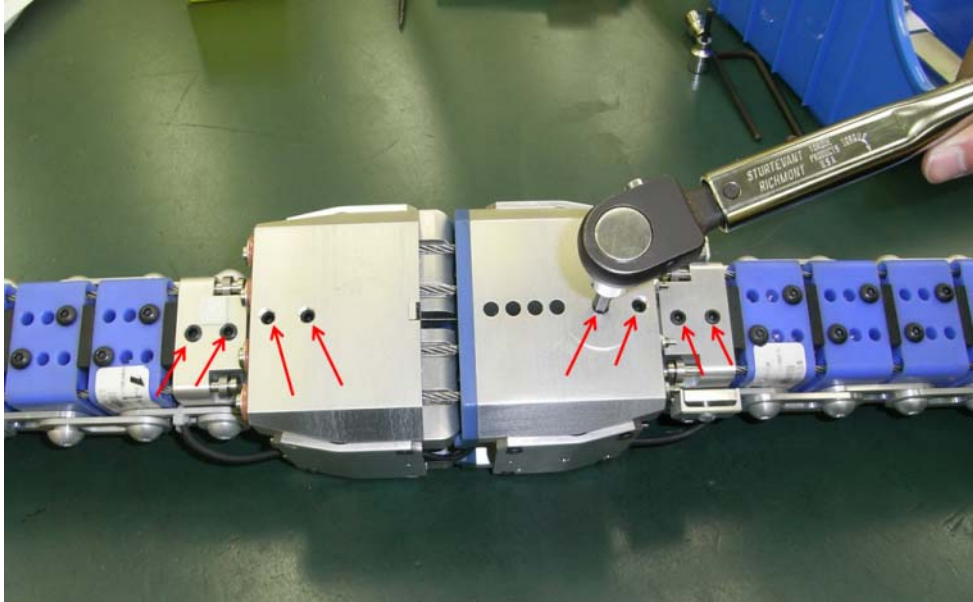

Figure 82 . Check screws with 8 Nm torque
Step 1: Check the eight M8 set screws shown in Figure 82 are tightened to 8 Nm;